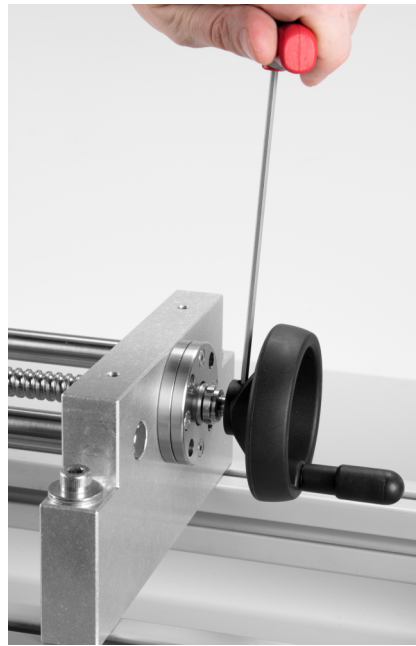

Figure 39: Installing the handwheel.
37. Locate the handwheel. Install it on the flange end of the ball screw, as shown in Figure 39. Push the handwheel as far as it can go. Using the 3 mm hexagonal T-handle key, tighten the handwheel setscrew against the flat surface of the ball screw tip.